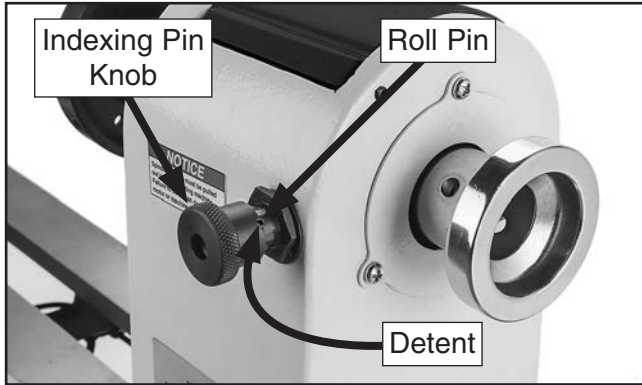

Figure 11. Indexing pin disabled.
2. Pull out indexing pin knob and rotate so detent is seated on roll pin (see **Figure 11**). This disables the indexing pin knob.